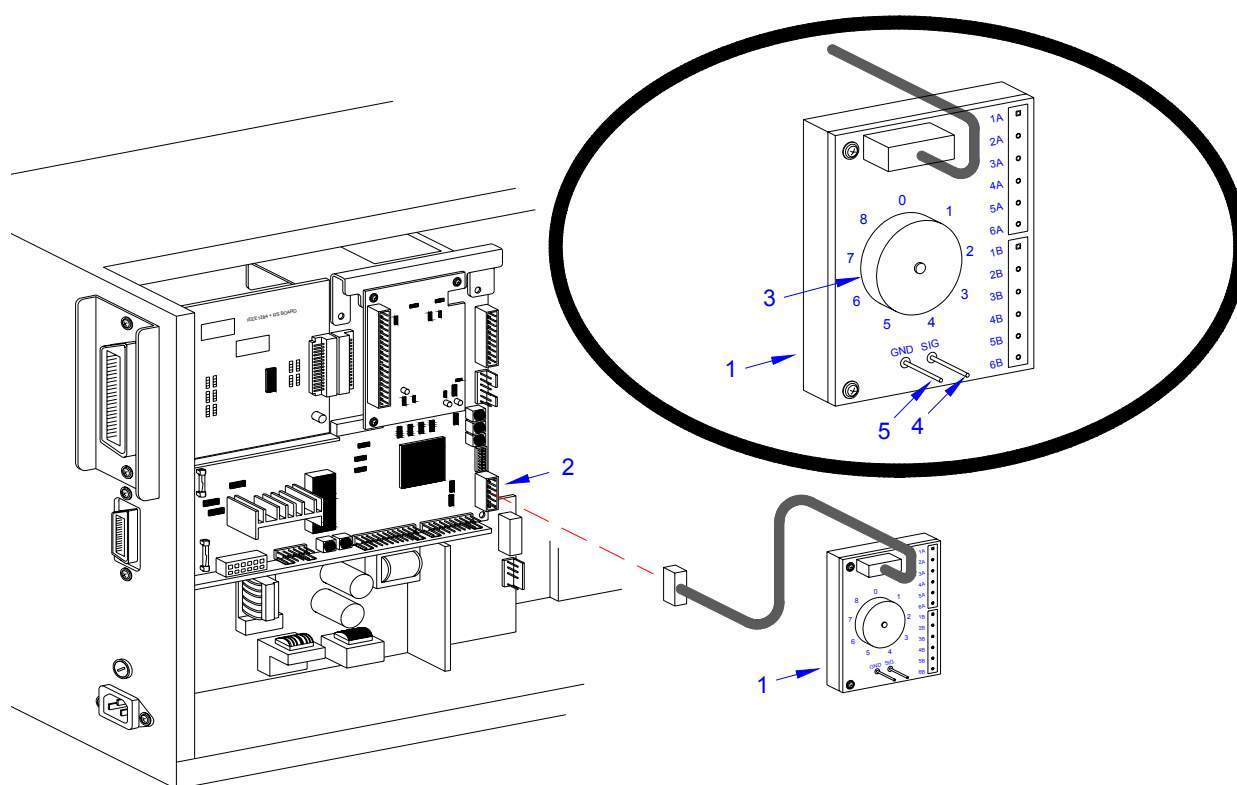

Figure 8-9, Label Sensor Adjustment
- 1 Turn OFFSET potentiometer (1, Figure 8-9) located on the front panel to the center position.
- 3 Connect test module (1, Figure 8-9) to main circuit board connector (2).